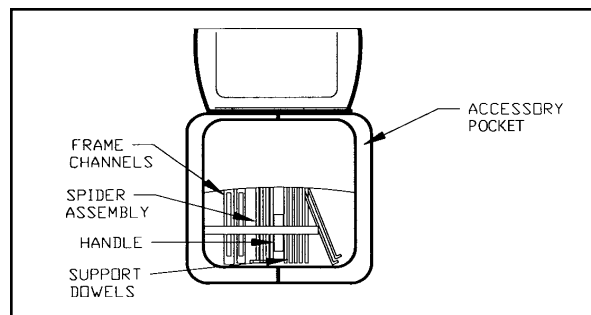

Figure 3—Unpacking accessory case
Step 3: The accessory case, located underneath the Electronic Balometer, is now exposed. Lift the pull tab and pull back to expose the accessory items. See Figure 3. Remove the spider assembly, support dowels and handle from the case. Figure 3 also shows the packing position of the accessory frame channel pieces. If installing a different hood size, remove these pieces at this time.